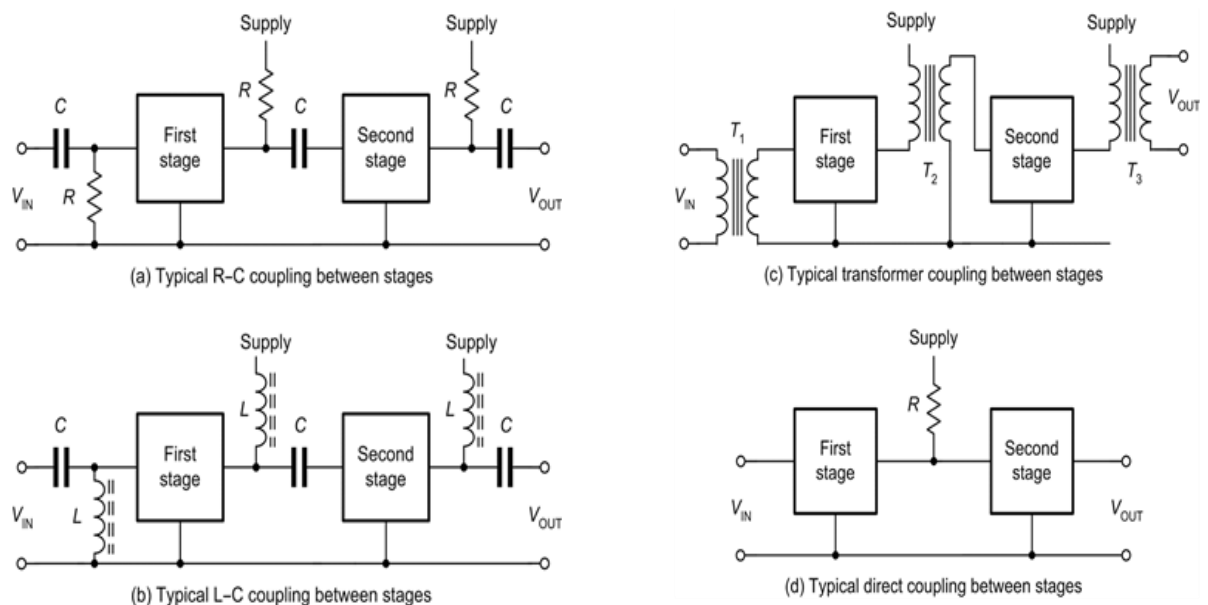

Figure 1.31 Different methods used for inter-stage coupling
- The most commonly used method is that of R–C coupling as shown in in Fig. 1.31 (a).
- A similar coupling method, known as L-C coupling, is shown in Fig. 1.31 (b). In this method, the inductors have a high reactance at the signal frequency.
- Two further methods, transformer coupling and direct coupling, are shown in Figs 1.31 (c) and 1.31 (d), respectively.